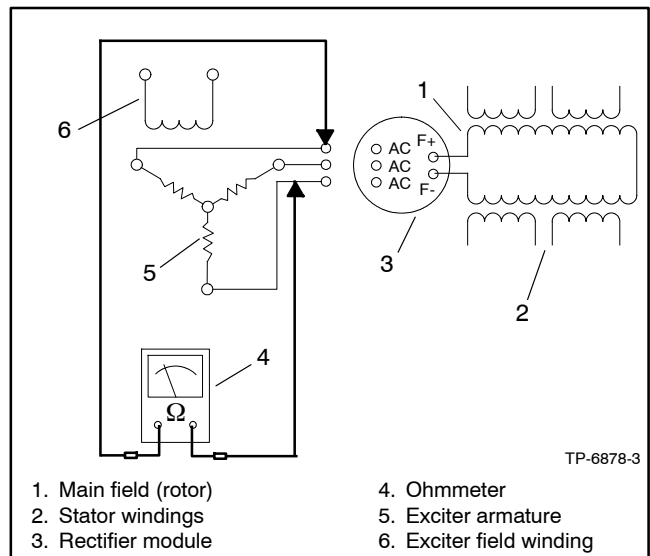

Figure 10-5 Exciter Armature Ohmmeter Test
3. With an ohmmeter on the R x 1 scale, check the resistance across the exciter armature leads. See Figure 10-5. See Section 1, Specifications, for the exciter armature resistance.